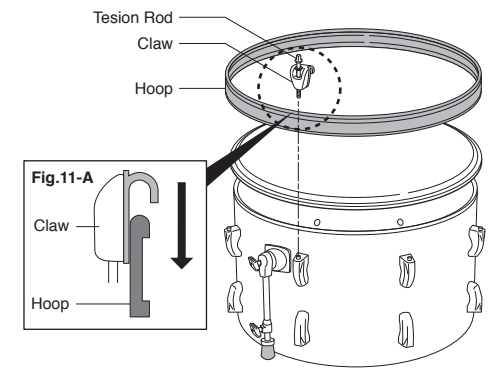

Fig.11
1. Place the Front Head on to the Bass Drum shell as shown with the Pearl logo up and square the Pearl logo (Fig. 11). Place the Bass Drum hoop over the head with the flat side of the hoop facing down (Fig. 11-A). Hook a Tension Rod and Claw on the Hoop above each lug and tighten the Tension Rods using the provided Drum Key.